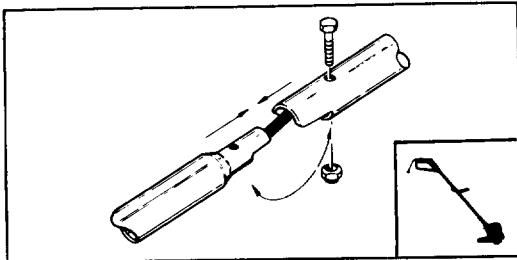

Figure 3
3. Slide lower tube into upper tube and align screw holes (Fig. 3). Check alignment of handgrip and housing (Fig. 3, insert).